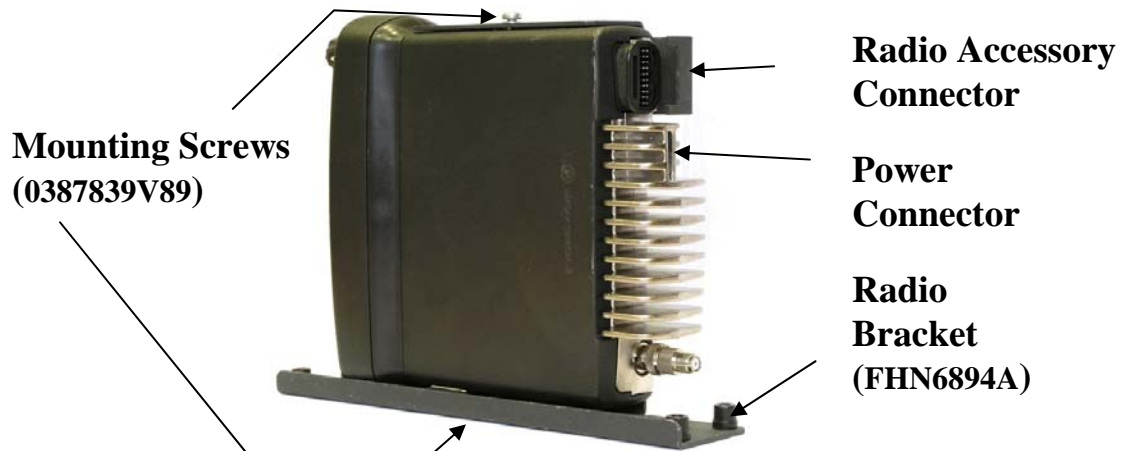
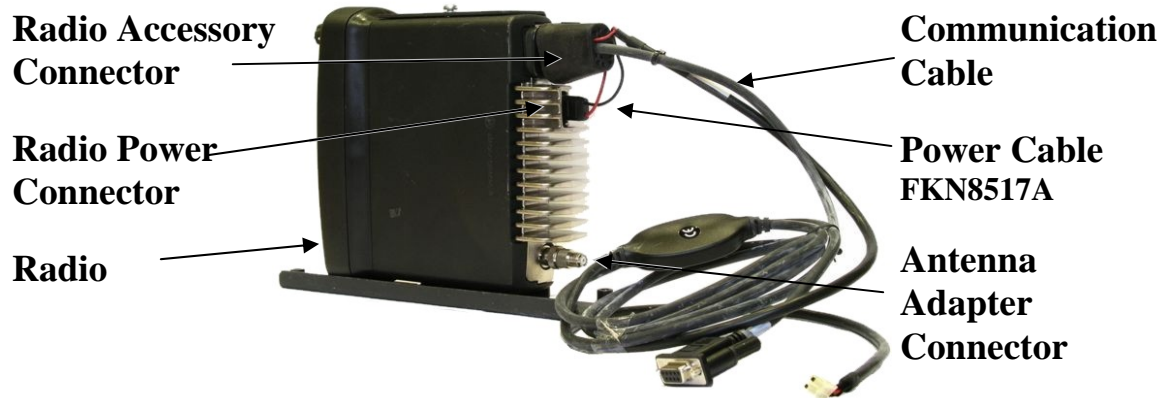
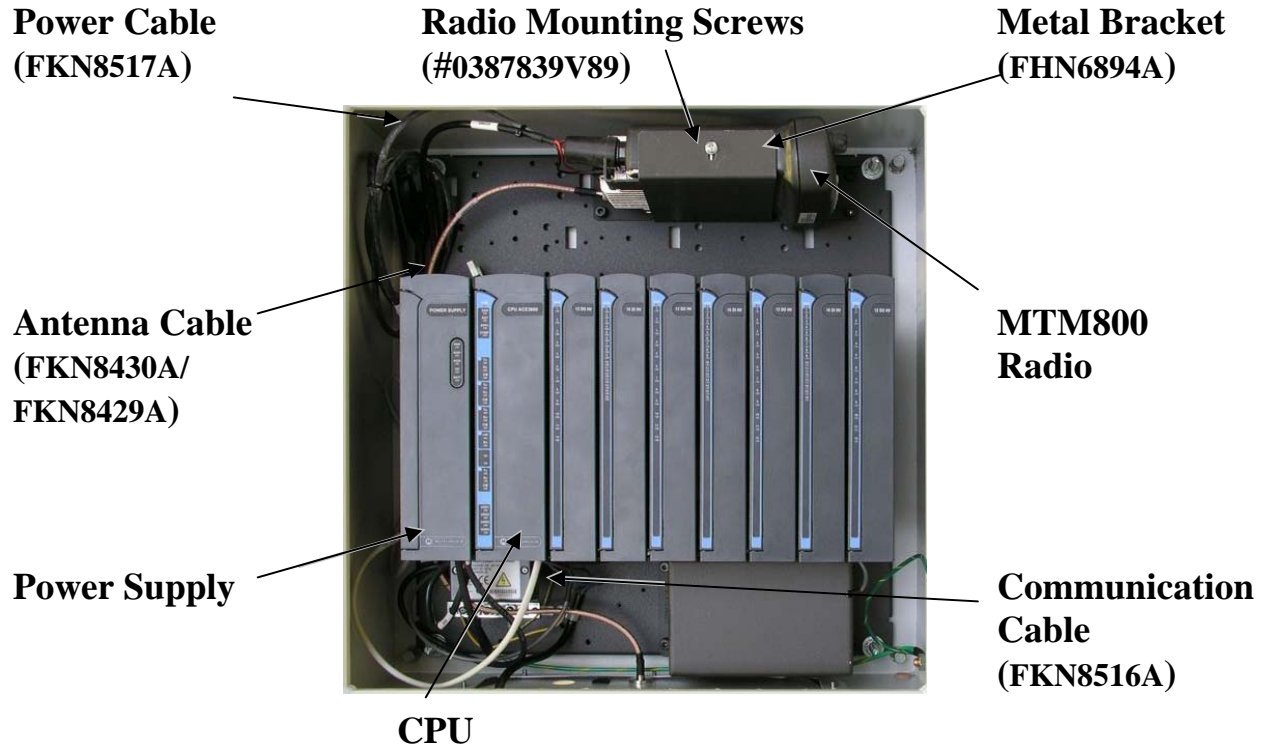

Figure 21-62 MTM800 Radio and Metal Bracket
Figure 21-63 MTM800 Radio Cable Connections
Figure 21-64 MTM800 Radio Installed on ACE3600 Chassis
2. Connect the 20-pin connector radio signal and power cable (FKN8517A) to the accessory connector on the radio. (See Figure 21-62 and Figure 21-63.)
3. Connect the end of the power cable (FKN8517A) to the radio's power connector. (See Figure 21-62 and Figure 21-63.) Connect the other end of the power cable to the AUX1A or AUX1B connector on the ACE3600 RTU Power Supply unit. (See Figure 21-64.)
4. Connect the communication cable (FKN8516A) to the end of the power and signal cable using the attached screws (FKN8517A). (See Figure 21-63.) Place one Fair-Rite soft ferrite (#7683477X01 from the supplied ferrite kit FHN7007A) on the cable near the bottom of the CPU door, loop the cable one turn around it, and clamp the ferrite on the cable. Connect the other end of the communication cable to the plug-in port of the ACE3600 CPU.
5. Mount the MTM800 radio onto the metal bracket (#0789422V45) using the two supplied radio mounting screws from kit FHN6894A, # 0387839V89 on the top and bottom of the radio. (See Figure 21-62, Figure 21-63 and Figure 21-64.)
6. Connect the antenna cable (FKN8430A/FKN8429A^{*}) to the antenna adapter connector on the radio and to the opening on the bottom of the ACE3600 housing using the appropriate bushing. (See Figure 21-64.) Mount the complex (bracket and radio) on the RTU chassis above the CPU and I/O modules, using the four built-in screws. (See Figure 21-64.)